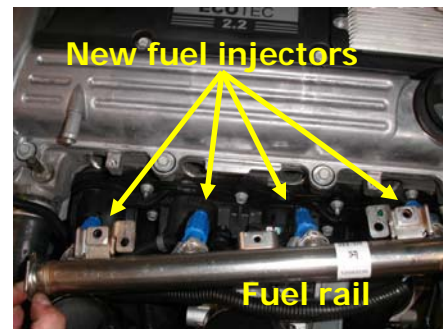

Fig. 20
22. Install the fuel injectors – disconnect the fuel injector plugs for each injector (4). Remove the two (2) fasteners retaining the fuel rail. Use caution when lifting the fuel rail up as it is filled with fuel and under pressure. Remove each injector and reinstall the fuel injectors supplied in the fuel rail. Make sure the o-rings are intact and use a bit of motor oil to lubricate each o-ring. Reinstall the fuel rail using caution not to cut any o-rings. Reinstall the fasteners and reconnect the injector connections (Figure 20).